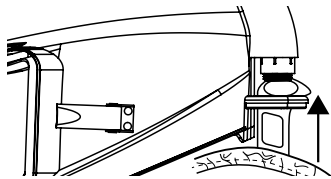

Figure 9
3. If cape has 3rd Hard tab assist, line up plastic tab on the cape over the breathing tube connection (Figure 9). Otherwise align clasp mechanism to front center of the helmet.